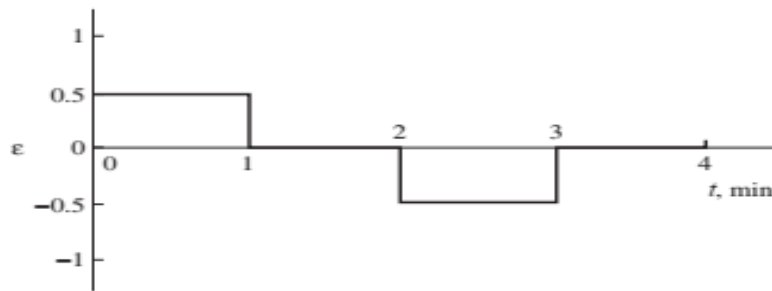

FIGURE P9-5
- 9.5. The input ε to a PI controller is shown in Fig. P9-5. Plot the output of the controller if $K_c = 2$ and $\tau_i = 0.50$ min.